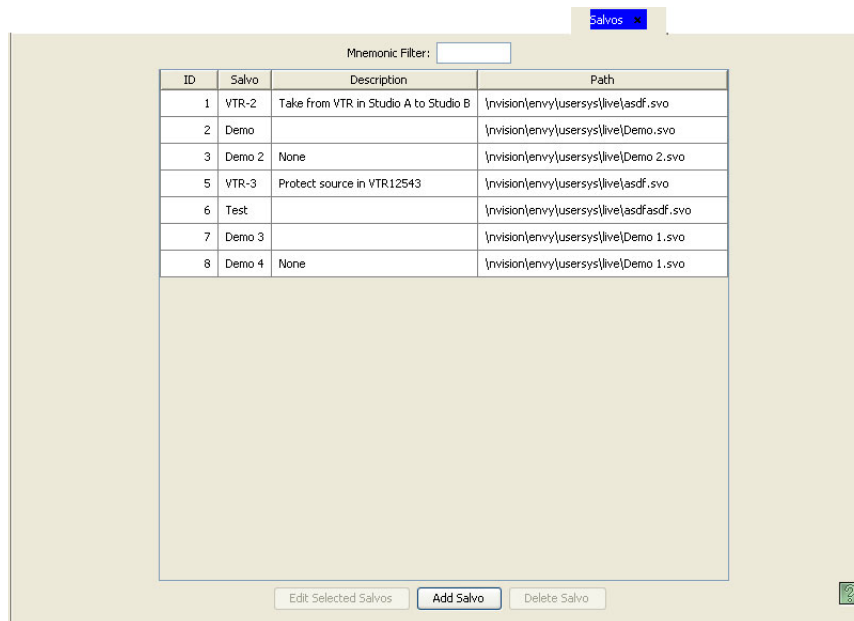

Figure 15-20. Salvos Page
- 2 From the Navigation area, select the ‘Configuration’ pane and then ‘Salvos’. The ‘Salvos’ page displays, as shown in Figure 15-20.